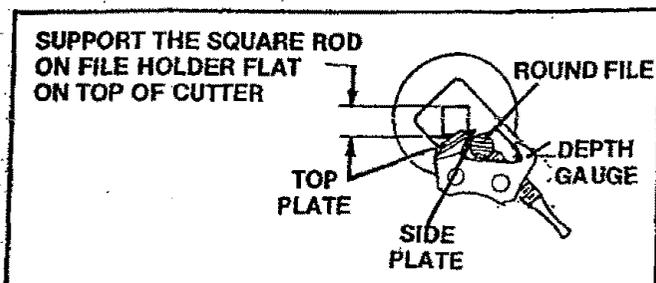

Figure 18
4. Support the square rod on the file holder (with 5/32" round file) on cutter top plate. Figure 18.